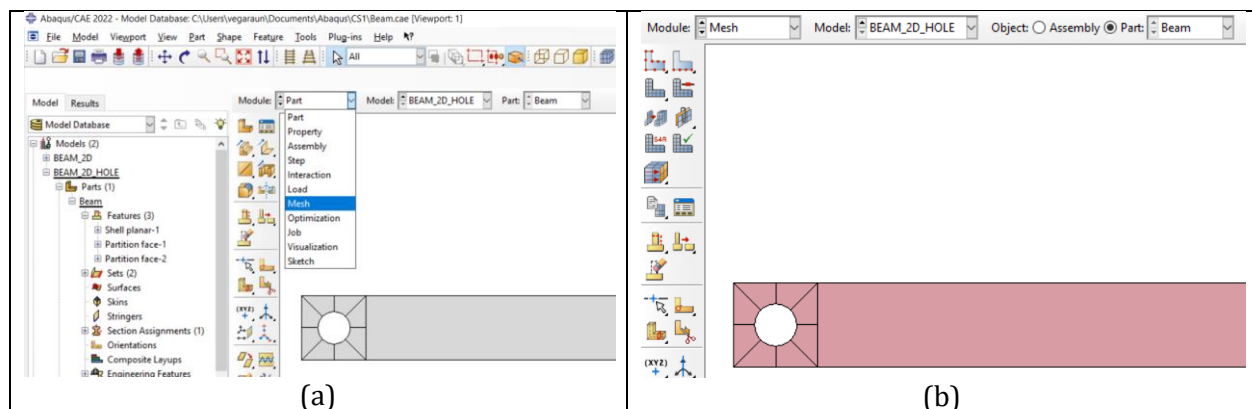

Figure 3-13 – Move to the mesh module.
12. Move to the Mesh module. See Figure 3-13(a). The part will now turn pink. See Figure 3-13(b).